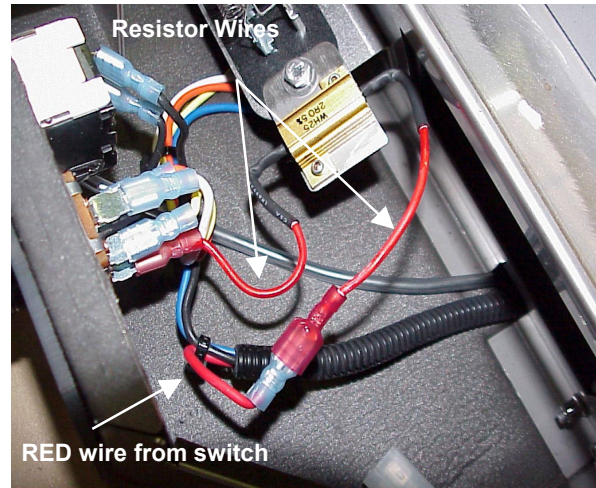

Figure 3 – Fitting of Resistor Wires
- d. Disconnect the **RED** wire from the back of the fan switch and plug into the male spade end of the resistor wire. Plug the other female terminal end of the resistor onto the fan switch terminal (Figure 3).